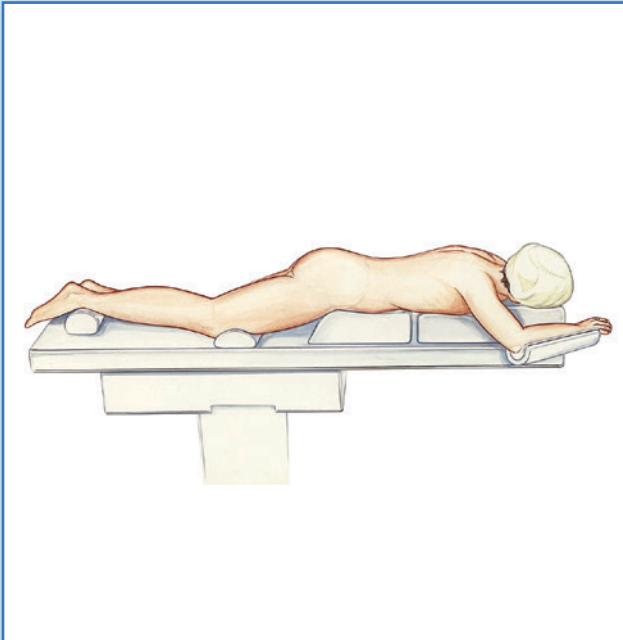

Fig. 2
- Position the patient on a radiolucent table for a posterior / dorsal surgical approach (Fig. 2).